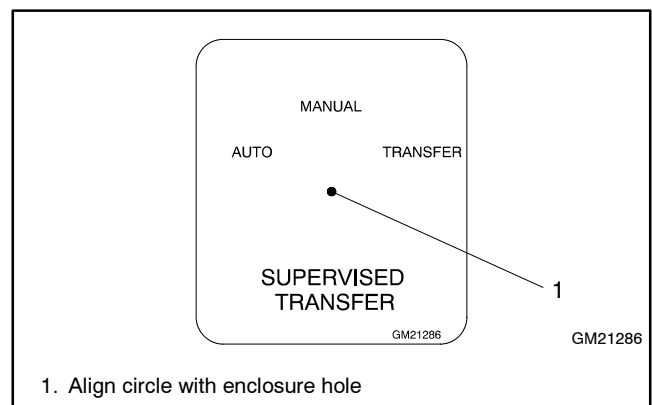

Figure 4 Attaching Switch Decal
- 2.2 With the surfaces clean and dry apply the decal (GM21286) to hole in the the enclosure door. Align the decal small circle to the center of the hole. See Figure 4.